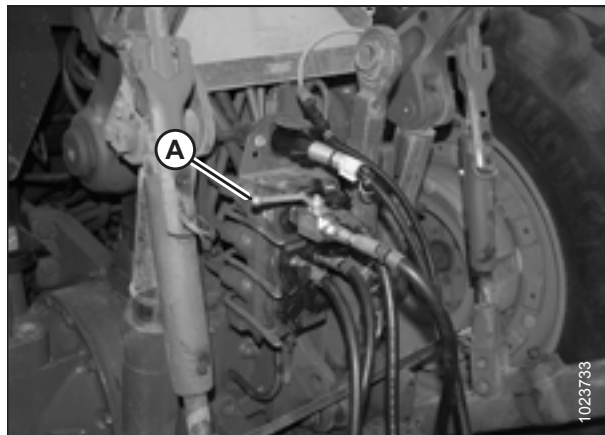
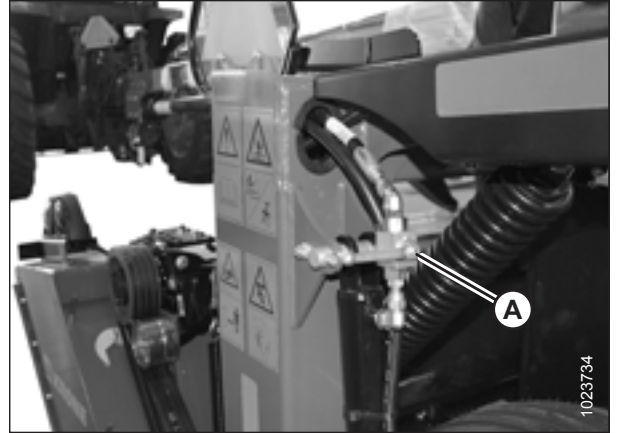

Figure 8.25: Steering Lock-Out Valve
Figure 8.26: Lift Cylinder Lock-Out Valve
11. Close the steering lock-out valve and the two lift cylinder lock-out valves by turning the handles to the closed position. For instructions, refer to Figure 8.25, page 178 and Figure 8.26, page 179.